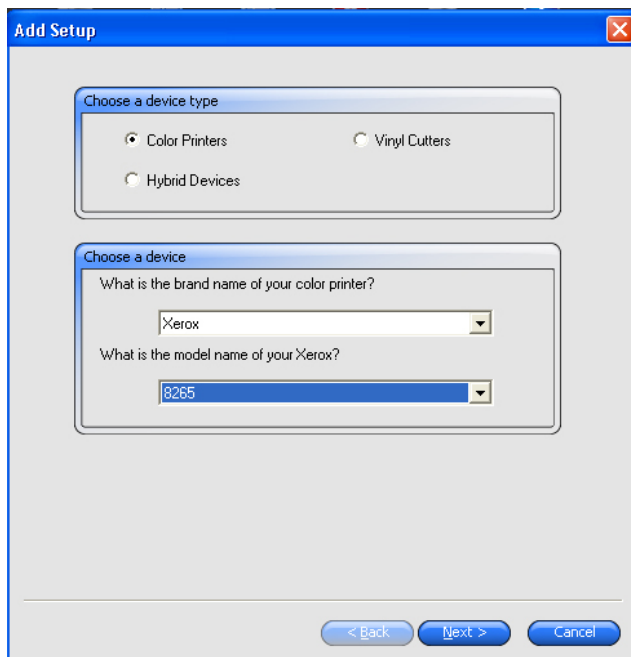

Figure 1. Add Setup Dialog Box
- c. Under “Choose a device” > “What is the model name of your Xerox?” select the model of your printer. Figure 1 shows, a Xerox 8265™.